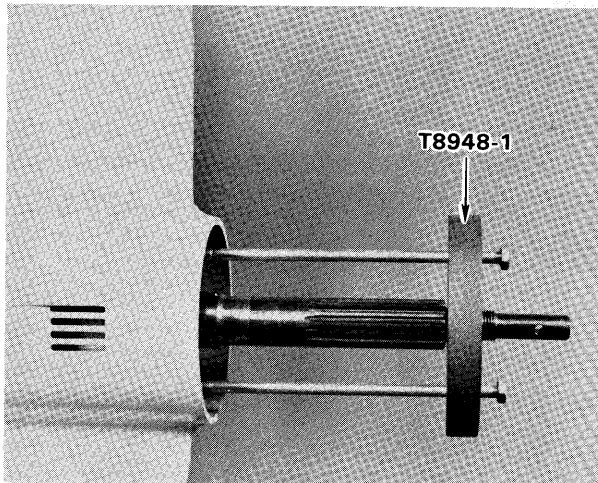

Figure 12—Installing Puller
- D. Remove four (4) screws securing propeller shaft bearing spool to bearing cage. Install puller (Special Tool T8948-1) as shown in figure 12. Thread puller all the way on prop shaft.